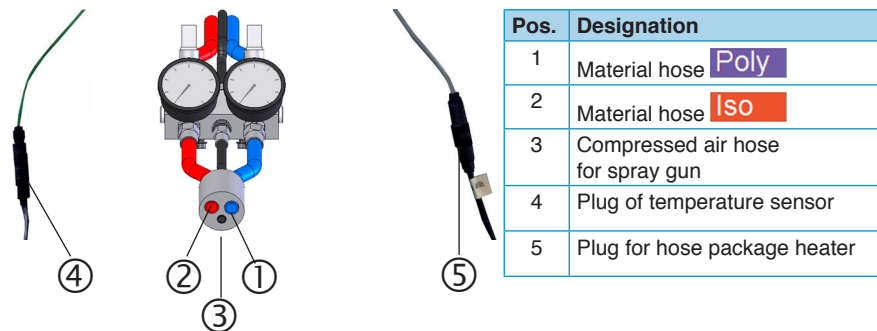

Figure 4.1
- Connect all hoses and cables to the adapter as follows, (Figure 4.1) - viewed from the front towards the control cabinet